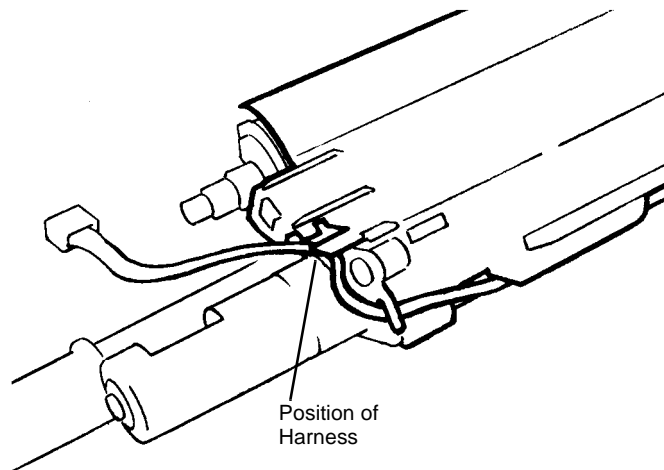

Figure 1 Observing position of Harness
11. Remove Developer. (Figure 1).